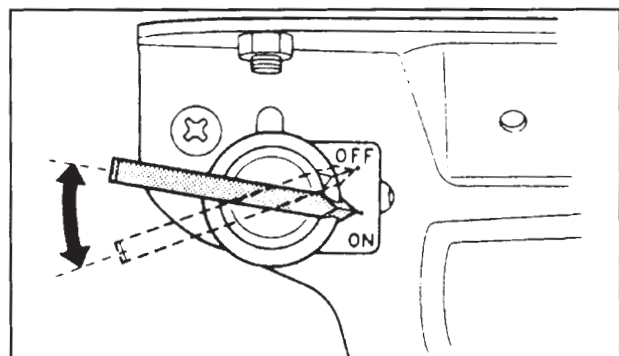

Figure 7. Retractable Start Engine On/Off Switch.
**For Retractable Start Engine** – Turn engine On/Off switch to "on" (see Figure 7) and SLOWLY pull the starter handle until just past compression – STOP! Return starter handle, pull firmly with a smooth, steady motion to start. Pull the handle straight out to avoid excessive rope wear from the starter rope guide.